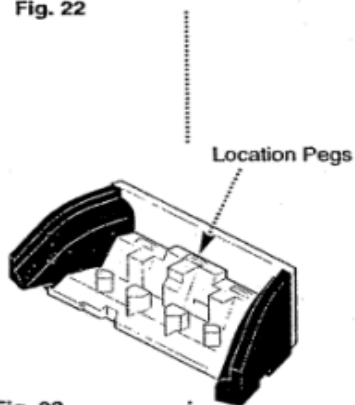

Fig. 23
4. Connect the cables as indicated (Fig. 23):
5. Locate the cut-outs in the side cheeks over the profile of the underbed (Fig. 23).
6. Take the three coals with the groove in the lower faces and place them on to the location pegs on the back ridge (Fig. 23 & 24).